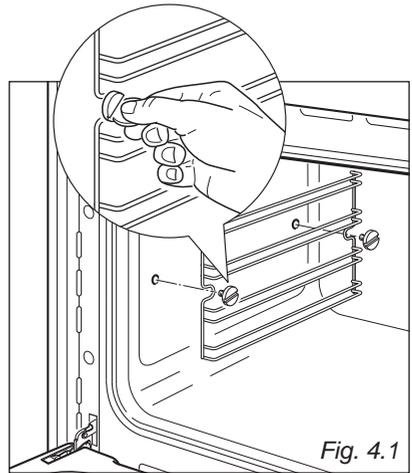

Fig. 4.1
- Assemble the wire racks to the oven walls using the 2 screws (fig. 4.1).
- Screw the side racks onto the oven wall (fig. 4.1).